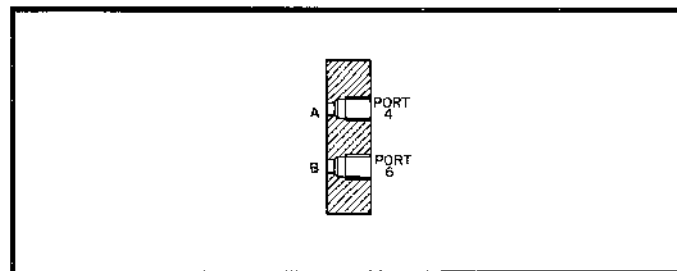

Figure 4. Type "P" Plain Control (508737D).
1. Plain Control. Refer to figures 4, 2 and 3. Pressure at Port 6 (Port 4 to drain) closes main prefill plunger and pressure at Port 4 (Port 6 to drain) opens it.